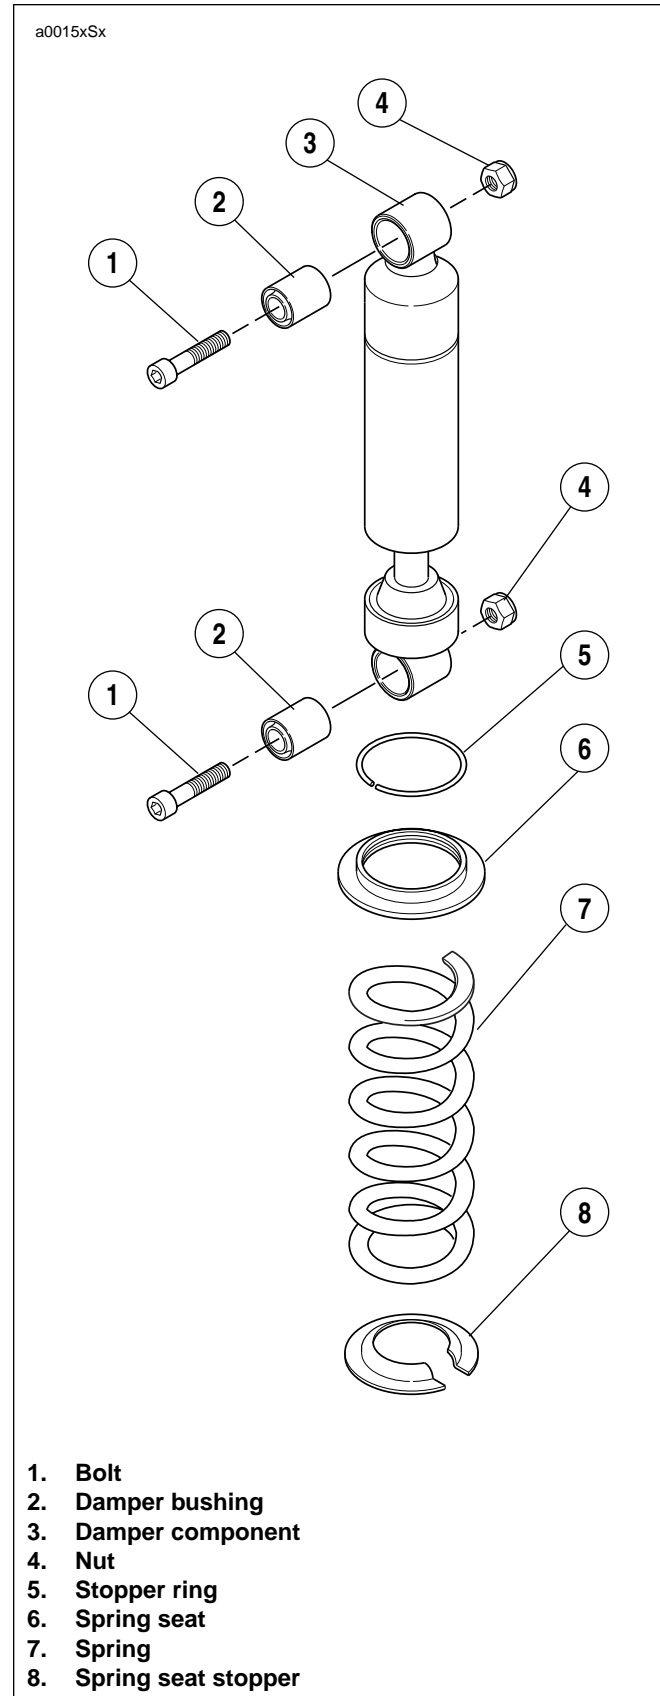

Figure 2-61. Rear Shock Absorber Assembly
See Figure 2-61. Damper component (3) cannot be serviced or repaired. If the damper component is leaking or damaged it must be replaced.
5. See Figure 2-61. Remove bolt (1) and nut (4) on top mount.
6. While supporting the shock absorber, remove the bolt (1) and nut (4) from the bottom mount.
1. See Figure 2-61. Place **new** damper bushings (2) into mounting holes of shock absorber (if not installed).